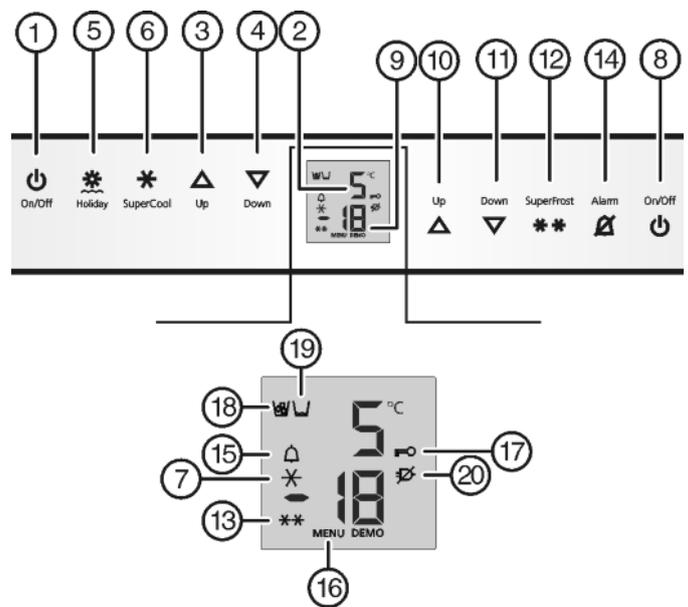

Fig. 2
- ▶ Press On/Off button, freezer compartment *Fig. 2 (8)*.
- ▶ Press On/Off button, refrigerator compartment *Fig. 2 (1)*.
- ▷ The fridge and BioFresh section are on: Fridge temperature display *Fig. 2 (2)* is on. When you open the door the interior light comes on.
- ▶ To activate the setting mode: press SuperFrost button *Fig. 2 (12)* for about 5 s.
- ▷ The menu symbol *Fig. 2 (16)* shines.
- ▶ Briefly press the SuperFrost button *Fig. 2 (12)* to confirm.
- ▶ To activate the child lock, briefly press the SuperFrost button *Fig. 2 (12)*.
- ▷ The child lock symbol *Fig. 2 (17)* shines. **c** flashes in the display.
- ▶ to deactivate the child lock, briefly press the SuperFrost button *Fig. 2 (12)*.
- ▷ The child lock symbol *Fig. 2 (17)* goes out. **c** flashes in the display.
- ▶ To deactivate the set-up mode: press On/Off button, freezer compartment *Fig. 2 (8)*.
- ▶ Press alarm button *Fig. 2 (14)*.
The temperature display and the alarm symbol *Fig. 2 (15)* flash at the same time.
The audible alarm is automatically silenced, the alarm symbol *Fig. 2 (15)* goes out and the temperature display stops flashing when the temperature is sufficiently cold again.